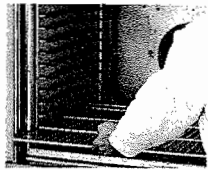

Fig. 6
2. Remove *all racks* by pushing down slightly on front of rack top to disengage the positive rack rear locking. When rack back is raised to clear, pull straight out as shown in Fig. 6.
2. Return *racks* by inserting them in rack guides (reverse procedure in Figure 6).